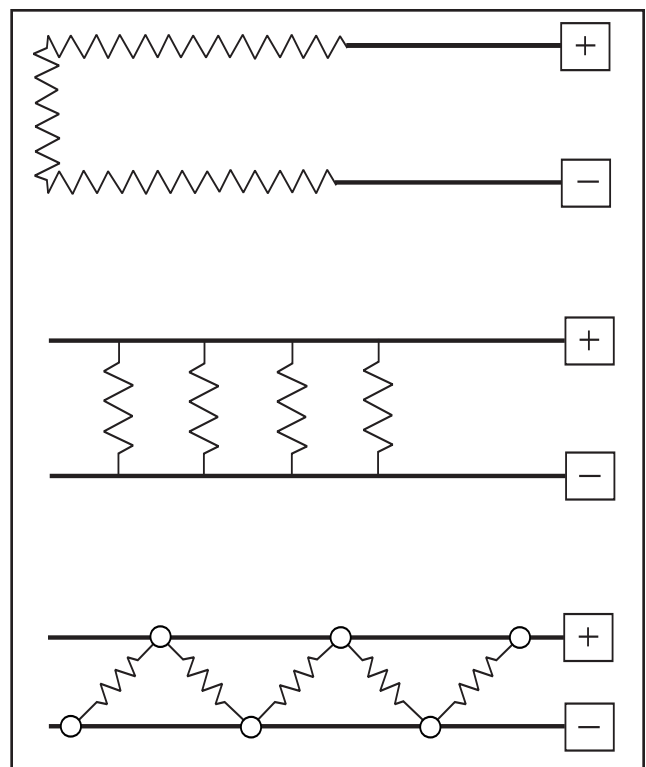

Figure 1.1(a)—Types of electrical heating
This standard describes procedures for the installation, testing, and documentation of electrical freeze protection and process heat tracing systems. Heat tracing cable types covered by this publication include: self-regulating heating cables, and mineral insulated (MI) heating cables (see Figures 1.1(a)-1.1(e) on the following page).